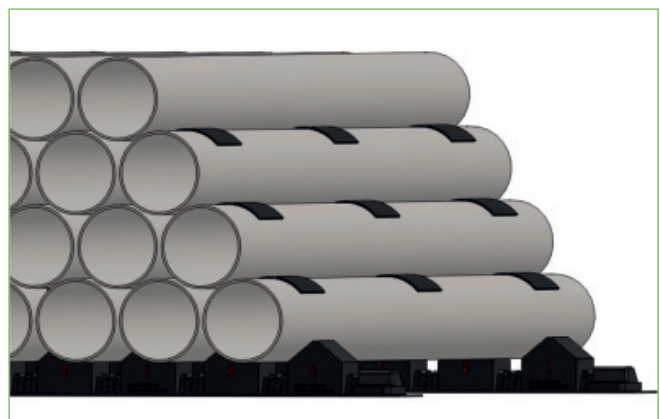

Figure 6. Pipe Stop configuration Type 1-2-1
- Make sure the stability of the pipe stack is controlled during unloading of the stack. The vacant pipe positions on the outside of the pipe stack, as presented in the arrangement of Fig. 6 should be respected as much as possible during unloading of the pipe stack!
- Always respect the vacant pipe positions as indicated in Fig. 6.